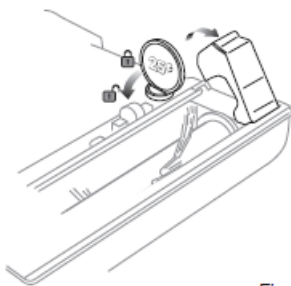

Fig. 12
4. Use a coin to remove the trap door if you need to remove the brushroll to either clean it or replace it. (Fig. 12)